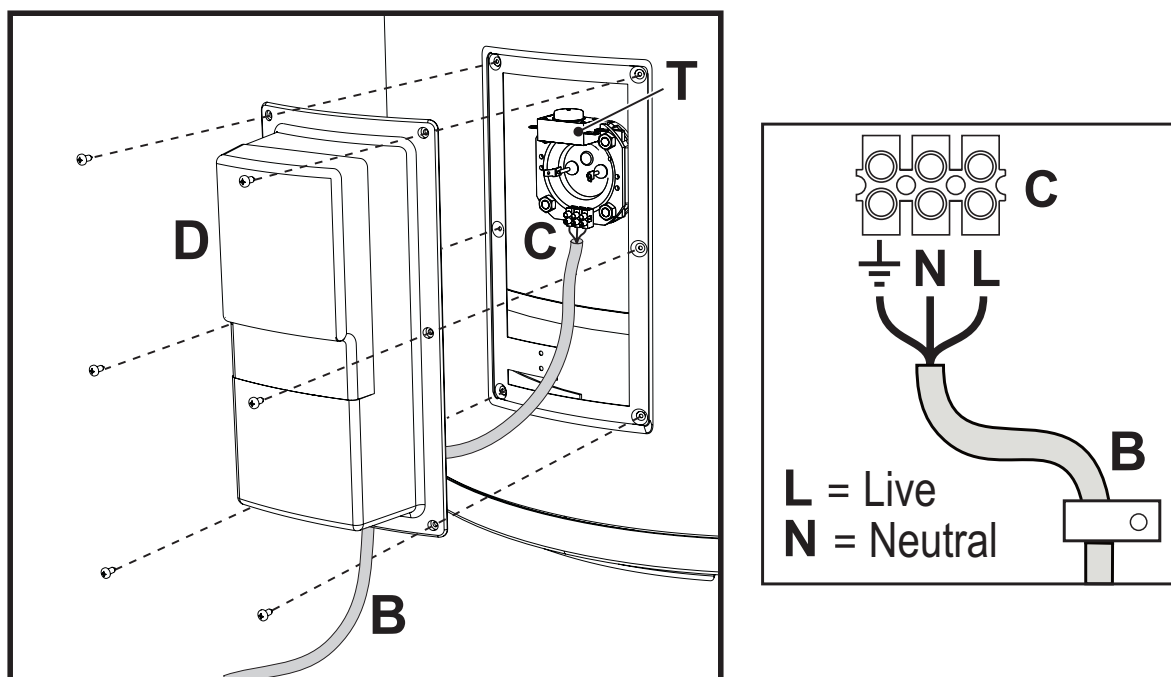

fig. 3
For the heating element electrical connection it is necessary to (see fig. 3):
**The hot water tank has a safety thermostat (ref. T in fig. 3) which cuts in if the temperature exceeds 93°C.**